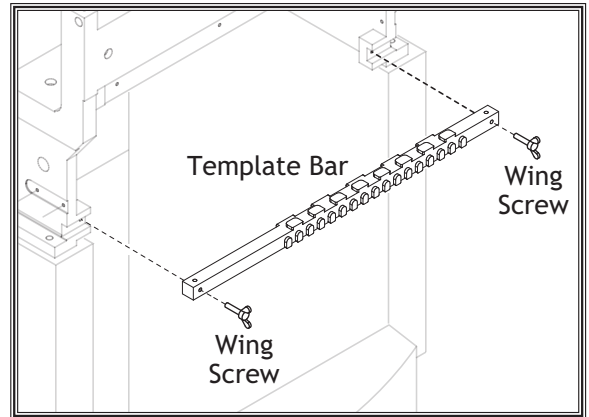

Figure 23. Template bar installation.
3. Slide the template bar out of the casting and reinstall it, as shown in **Figure 23**, so the desired template size is facing down.